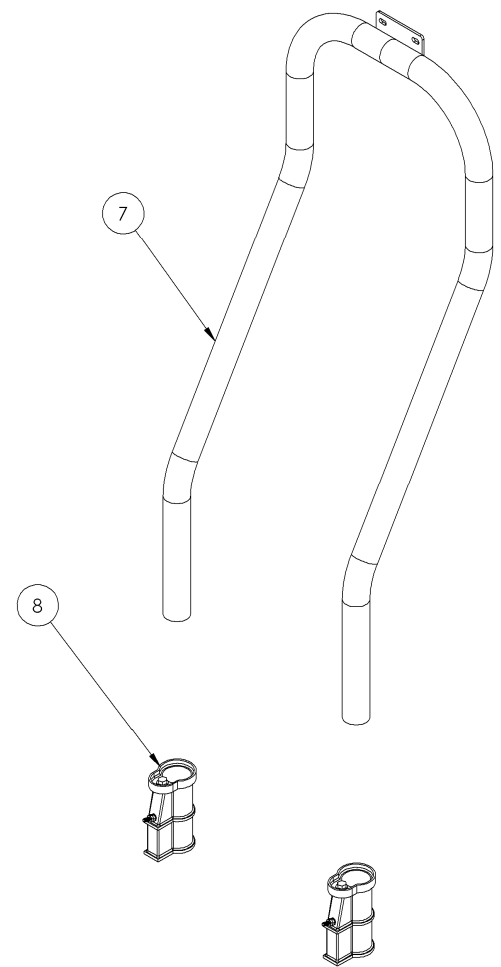

Fig. 2
1. Insert the vertical post (7) into the installed anchors (8), as shown in **FIGURE 2**. To make assembly easier, the basketball game can be assembled facing away from the pool and will be turned around once assembly is complete. (For anchor installation information see 06-252, which is provided with the anchors)